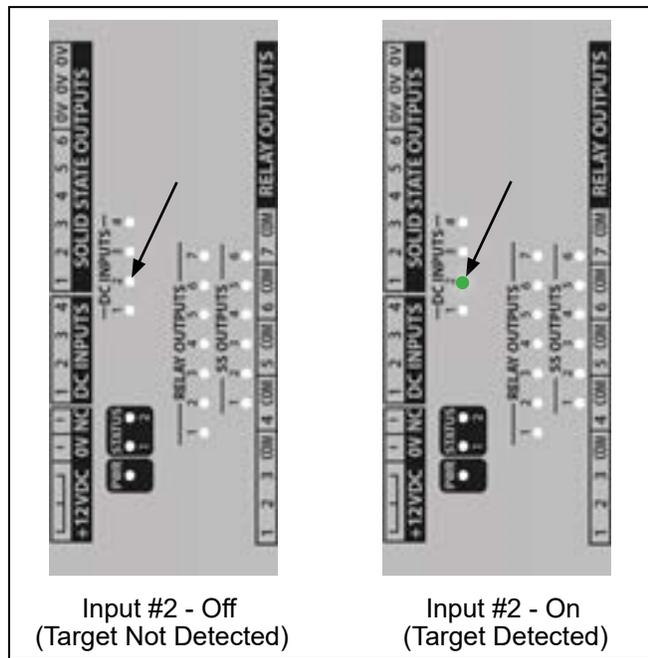

Figure 9
- Monitoring the expansion board DC input #2 will also confirm the sensor's operation. Input #2 should turn off when a target is not present and illuminate when a target is detected. See **Figure 9**.